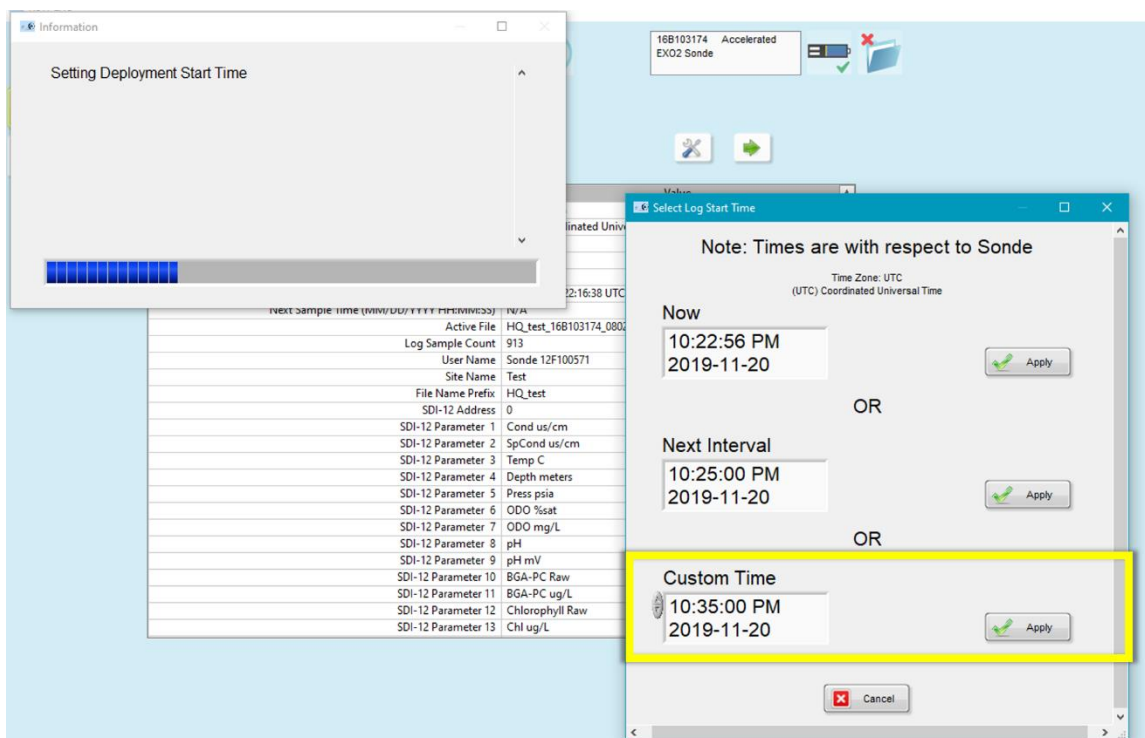

Figure 8. Select a Custom Time ~10 Minutes from the Current Time to Start on an Even 5 Minute Interval
6. When the **Select Log Start Time** window appears, select a custom time approximately 10 minutes in the future from the current time (**Now**) to start data collection on an even five (5) minute interval and click “**Apply**” (Figure 8).